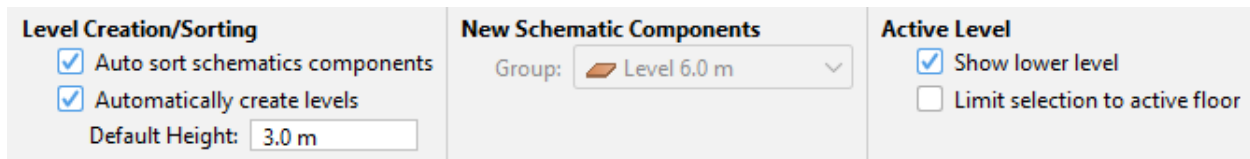

Figure 24. Level Creation Panel
When nothing is selected in the model and no tools are active, the **Level Creation** panel is shown, as in Figure 24. This panel controls the automatic creation of levels and automatic sorting of new objects into levels. It also provides some options for level view and selection.
2. Clear the selection so that the **Level Creation** panel is visible (Figure 24).